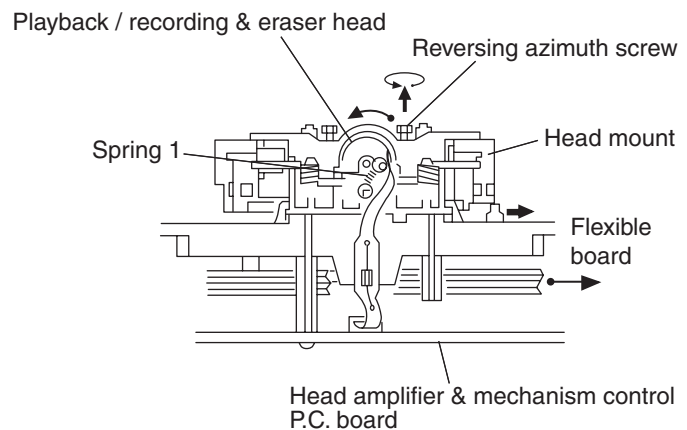

Fig. 3
1. Reassemble the playback head from the front of the head mount to the position as shown in Fig. 3.
4. Attach the flexible P.C. board to the chassis base, as shown in Fig. 3.